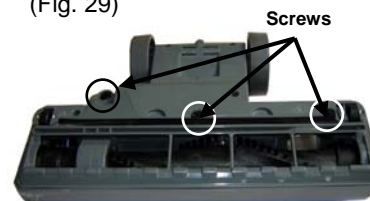

Fig. 29
3. Use a flat head screwdriver or a coin and turn the three(3) screws counter clockwise one-quarter (1/4) turn. (Fig. 29)